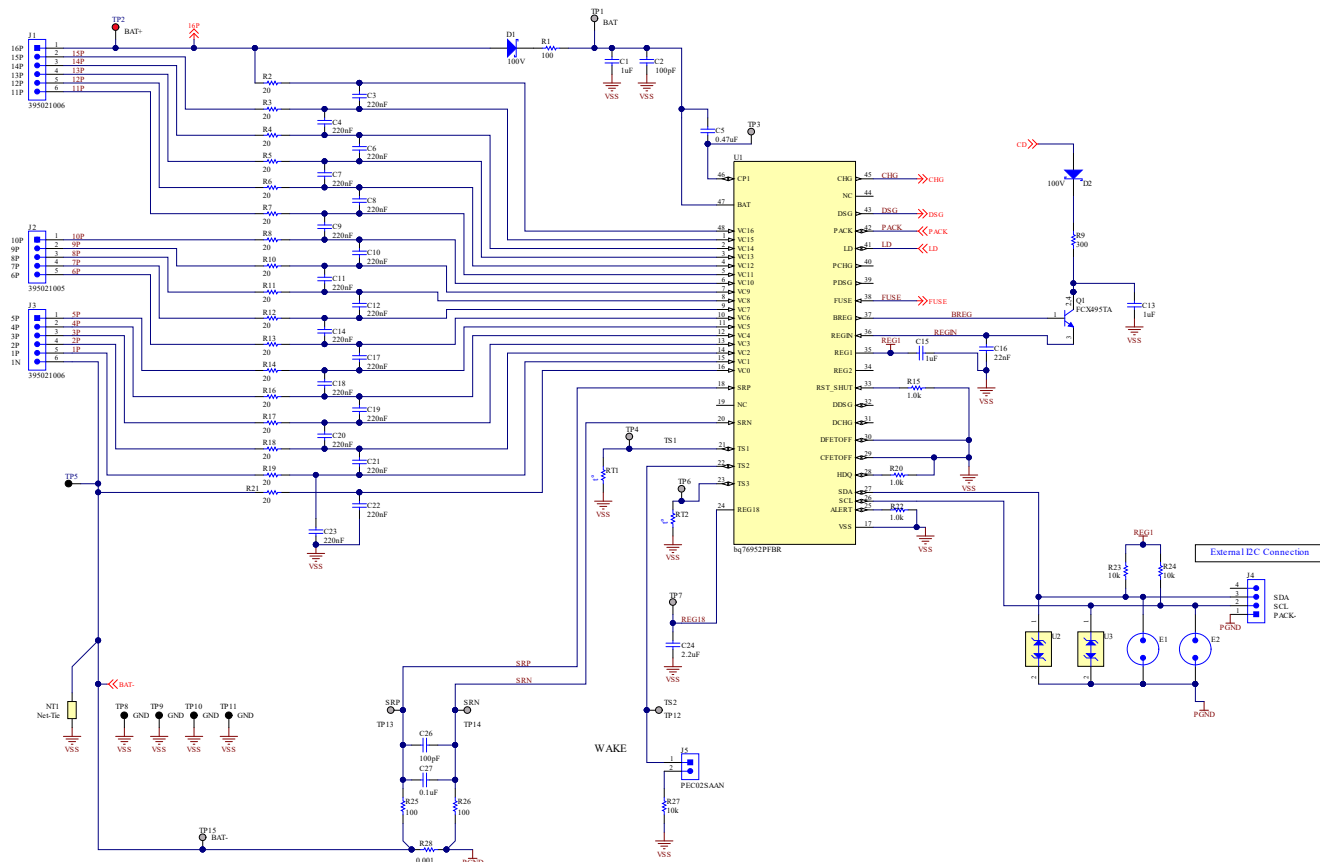

Figure 16-2. BQ76952 16-Series Cell Schematic Diagram—Monitor
- Power Dissipation, which can be a factor of the RDS(ON) rating of the FET, the FET package, and the PCB design.
- The overdrive level of the BQ76952 device charge pump should be selected based on RDS(ON) requirements for the protection FETs and their voltage handling requirements. If the FETs are selected with a maximum gate-to-source voltage of 15 V, then the 11 V overdrive mode within the BQ76952 device can be used. If the FETs are not specified to withstand this level, or there is a concern over gate leakage current on the FETs, the lower overdrive level of 5.5 V can be selected.
- A diode can optionally be included in the collector circuit of the BJT, in order to avoid reverse current flow from BREG through the base-collector junction of the BJT to PACK+ during a pack short circuit event. This diode can be seen in Figure 16-2 at D2.